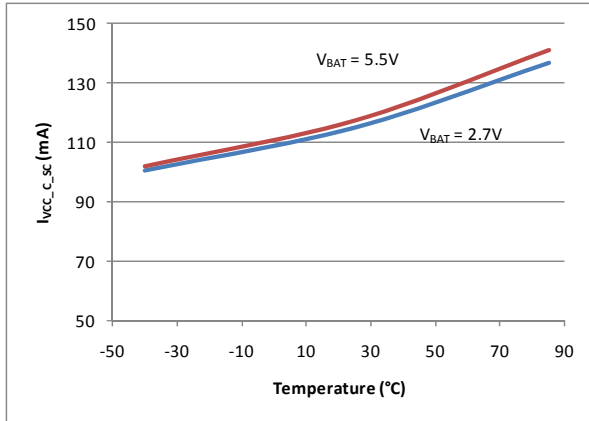
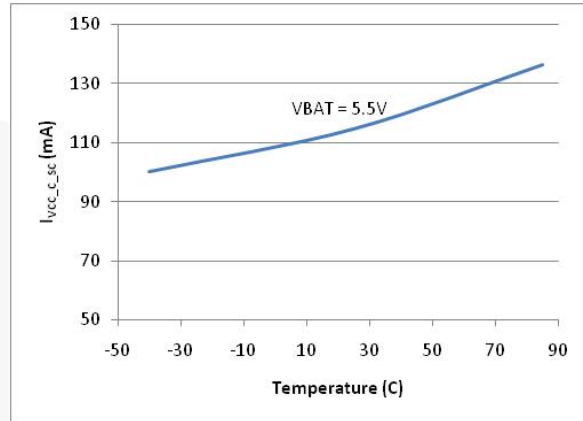
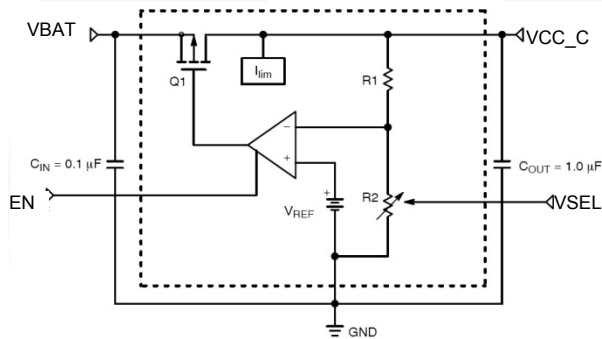

Figure 4. Short-Circuit Current, (I_{VCC_C_SC}) vs. Temperature V_{CC_C}=1.8V (V_{SEL}=LOW)
Figure 5. Short-Circuit Current, (I_{VCC_C_SC}) vs. Temperature V_{CC_C}=3.0V (V_{SEL}=HIGH)
Figure 8. Simplified Block Diagram of the LDO Voltage Regulator
FXLP4555 has a shutdown input (EN) that allows it to turn off or turn on the regulator output. Figure 8 shows a simplified view of the voltage regulator. The V_{CC_C} output is internally current limited and protected against short circuits. The short-circuit current (I_{VCC_C_SC}) is constant over the SIM Card V_{CC} and V_{BAT}, while it varies with operating temperature, typically in the range of 90mA to 140mA (Figure 4 and Figure 5).